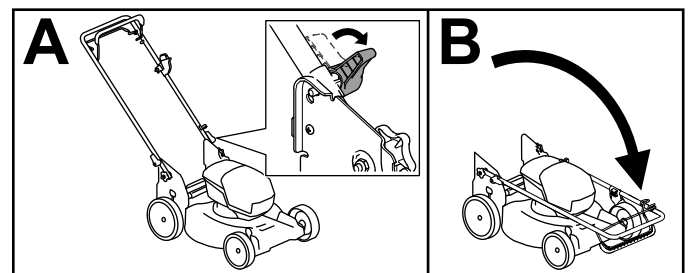

Figure 16
4. Disengage the handle locks until you can move the upper handle freely (A of Figure 16).
5. Fold the handle forward to the fully forward position (B of Figure 16).
6. To unfold the handle, repeat step A of Figure 16 and fold the handle to the operating position.